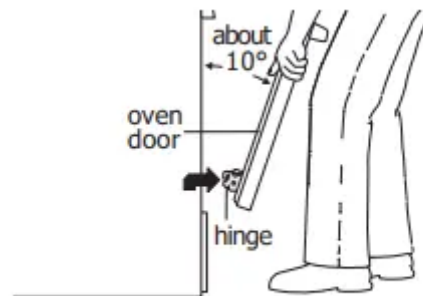

Figure 23: Holding door for removal
3. Firmly grasp both sides of oven door along the door sides. Do not use the oven door handle (See Figure 23).
4. Close the door to approximately 10 degrees from the door frame (See Figure 23).
1. Firmly grasp both sides of oven door along the door sides. Do not use the oven door handle (See Figure 23).
2. Holding the oven door at the same angle as the removal position, seat the hook of the hinge arm over the roller pins located on each side of the oven door frame (See Figure 23 and Figure 24). The hook of the hinge arms must be fully seated onto the roller pins.